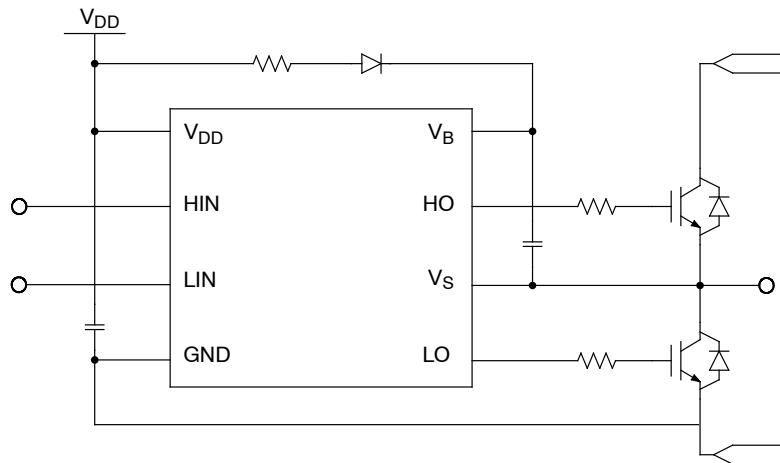

Figure 2. Simplified Application Schematics
| High-Side Offset Voltage (see Figure 2) | V_S | -900 | 900 | V |
| High-Side Supply Voltage (see Figure 2) | V_B | -900 | 900 | V |
| High-Side Output Voltage (HO) (see Figure 2) | V_{HO} | $V_S - 0.3$ | $V_{BS} + 0.3$ | V |
| High-Side Offset Voltage (see Figure 2) | V_S | -800 | 800 | V |
| High-Side Output Voltage (HO) (see Figure 2) | V_{HO} | V_S | V_{BS} | V |